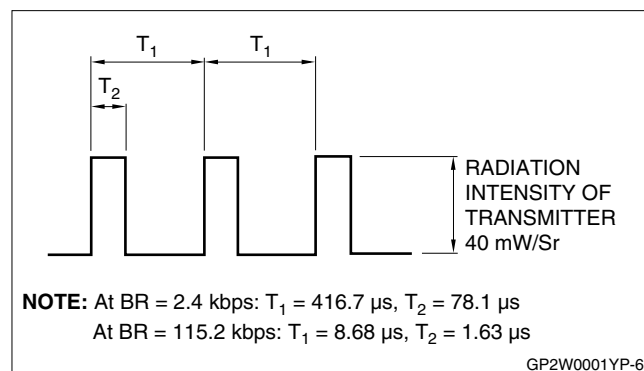

Figure 6. Input Signal Waveform (Detector Side)
8. $V_{CC} = 3\text{ V}$, $I_{OL} = 400\text{ }\mu\text{A}$. See Figures 6, 7, and 8.
9. BR = 115.2 kbps. See Figures 6, 7, and 8.
10. V_{OH} , V_{OL} , t_w , t_r , t_f shall be satisfied at $\phi \leq 15^\circ$. See Figures 6, 7, and 8.